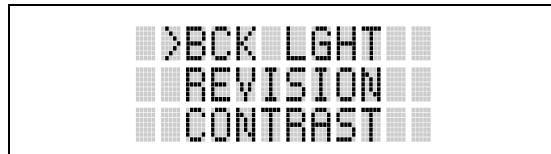

**Figure 9-8: Menu Display**
2. Upon entering the menu selection mode, Menu options will appear in the display (see Figure 9-8).